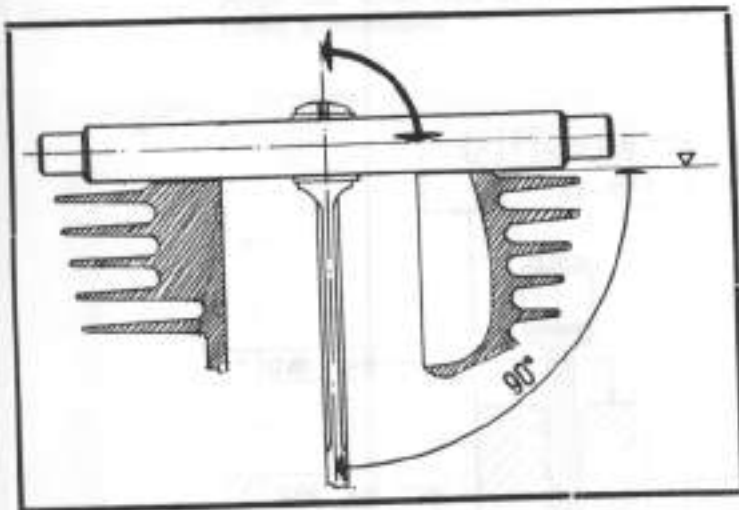

Fig. 25 - Alignment of the connecting rod
- b) check the connecting rod alignment with the fixture No. 06 (fig. 25)